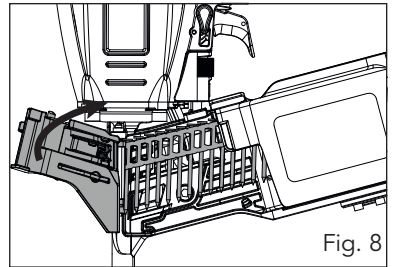

Fig. 8
5. Carefully close the cover of the magazine (10) followed by the feeder cover (5), snapping it into place (fig. 8).